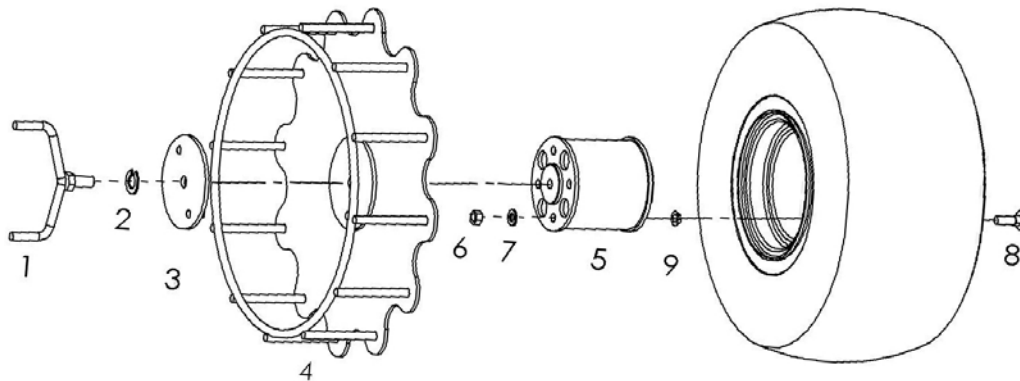

Figure 8.3
For the subsequent installation of the lattice wheel set, the hitch hubs (Fig.8.3, item 5) must first be mounted on both sides of the self-propelled implement.
- The sprocket wheel is put on the hub and fixed by the driving plate (Fig.8.3; Pos.3).
- Finally, secure the mesh wheel and drive plate with the thumbscrew (Fig.8.3; In order to avoid unintentional loosening of the thumbscrew, there should be a spring washer (Fig.8.3; Pos.2) in front of the thumbscrew.